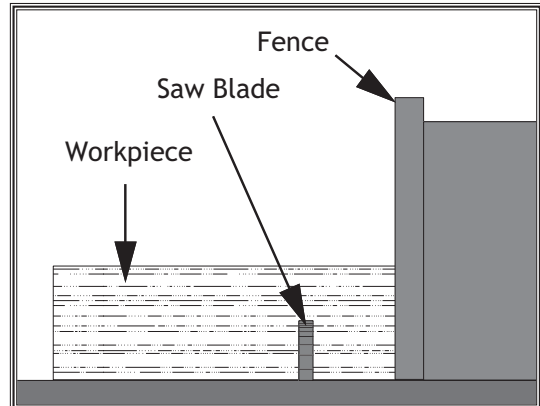

Figure 84. Rabbet cutting with a standard blade.
4. Adjust the fence so the blade is aligned with the inside of your rabbet channel as shown in **Figure 84**.